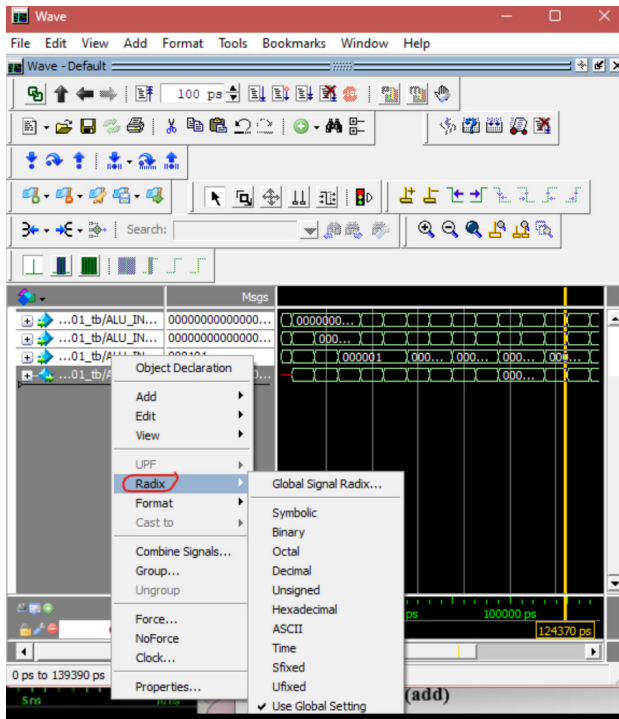

Fig. II.9. Waveform
- Once the Wave windows are open. If another format is needed, select all the signals, right click, click 'Radix,' and the options to change to various formats like decimal, binary, or octal as shown, like in Figure II.9 below. Finally, press 'Run All'(top right) to see the waveforms.